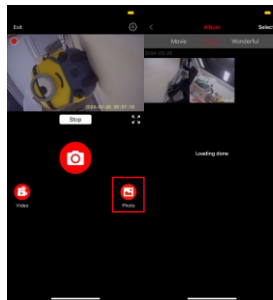

Figure 9
5.7 In the page for recording video at rear time, click [Recorder photo], it gets into photo list. (See Figure 9)